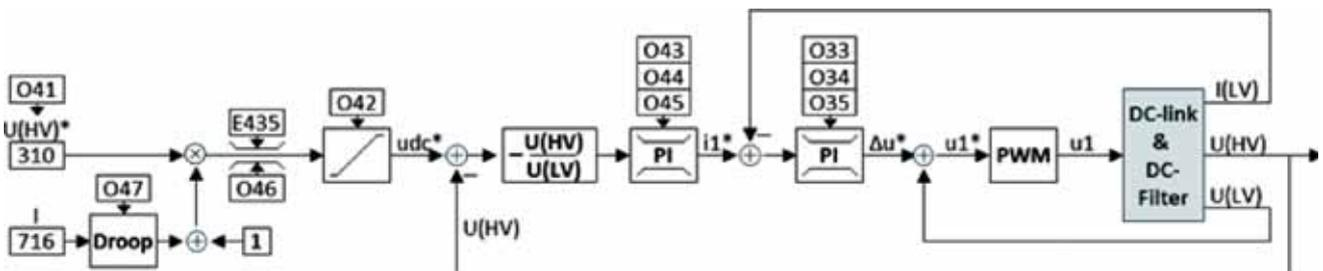

Fig. 27 Block diagram of DCU high side DC-link voltage controller U (HV).
5.1.4 DCU DC-link voltage controller U (HV)
The block diagram of the DCU high side DC-link voltage U (HV) controller is shown in Fig. 27.